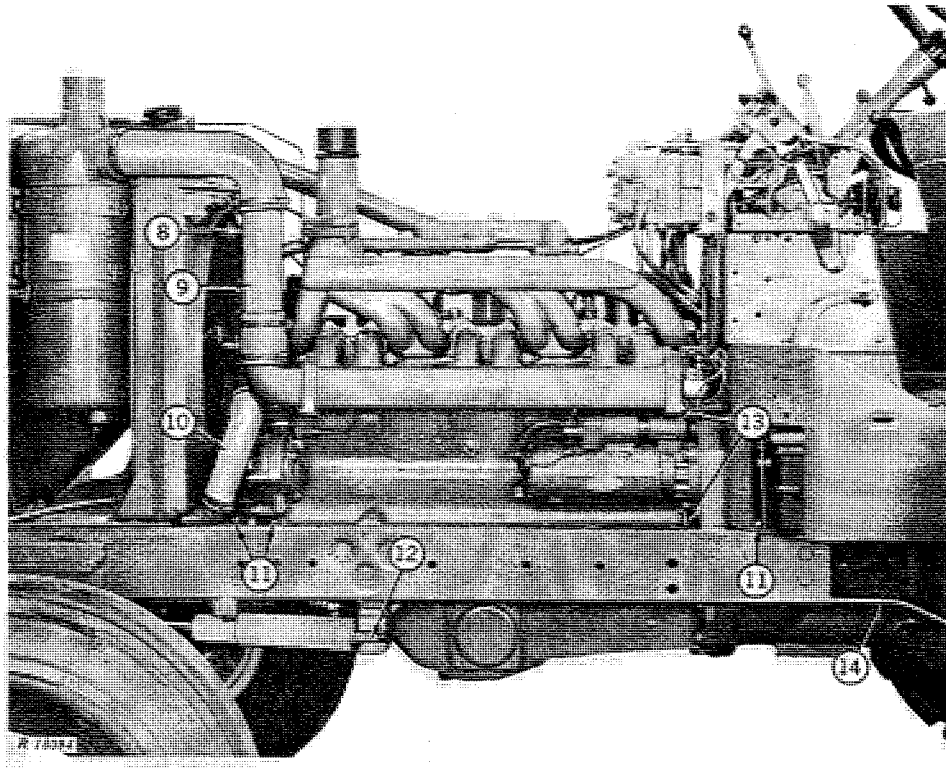

Fig. 7—Separation Procedures on Left-Hand Side
8. Disconnect air indicator switch and remove harness from clip on radiator (Fig. 7).